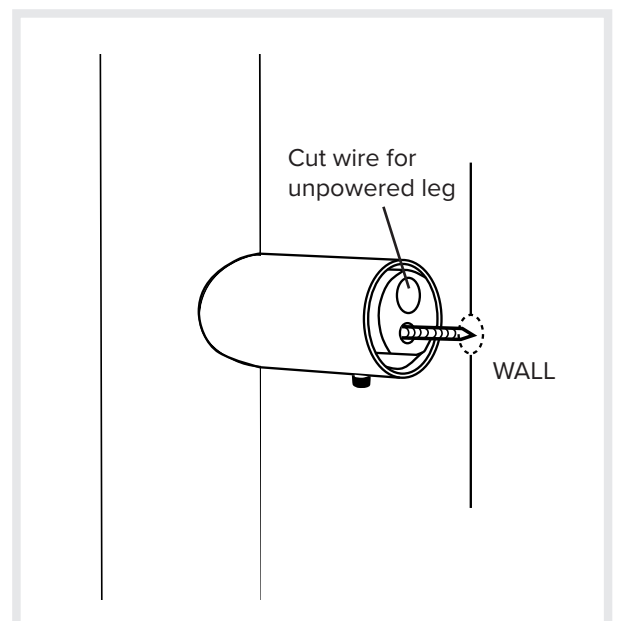

Figure 4b
- Use a level to determine the correct position for the blocks at the non-cabled end. See *Figure 4b*